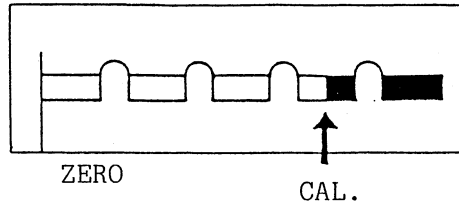

Figure 8 Indicator Scale Diagram
3) Set the multi-range switch (S_1) to "CAL." to see if the indicator indicates "CAL." (Figure 8 The boundary between the white and red sections) (See operating cautions Item (5).)